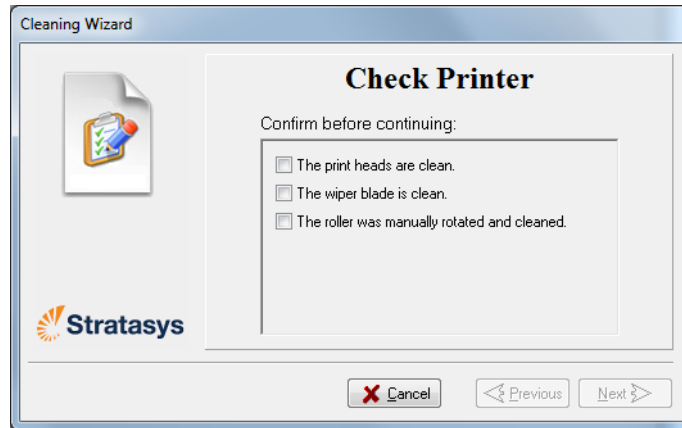

Figure 6-22: Wizard screen during the cleaning process
15. When you have finished cleaning, select the confirmation check boxes in the wizard screen (see figure 6-22) and click Next.